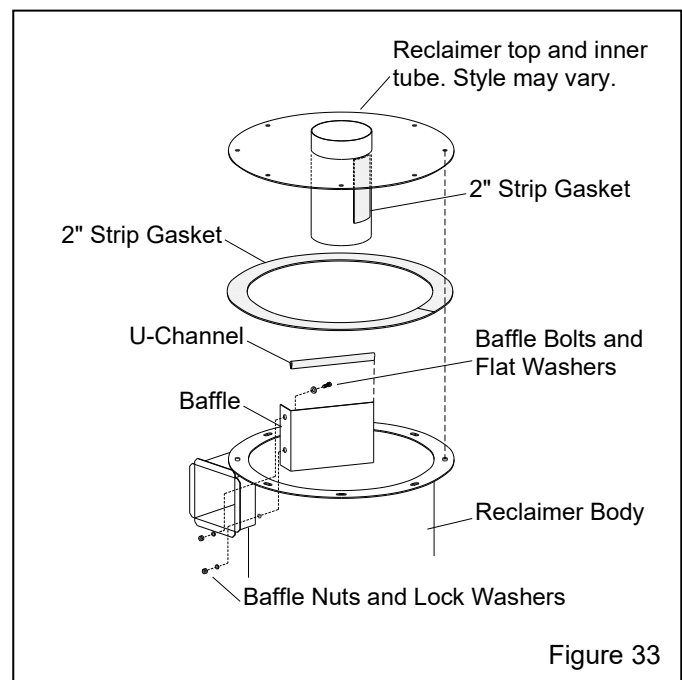

Figure 33
7.13 Removing or Replacing Reclaimer Inlet Baffle – Figure 33